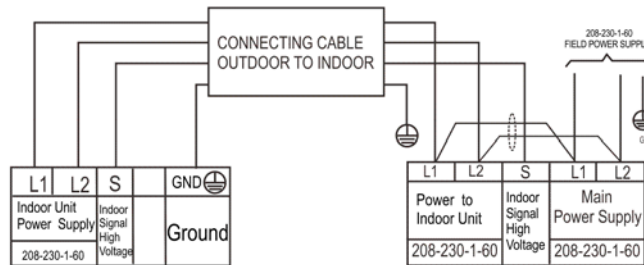
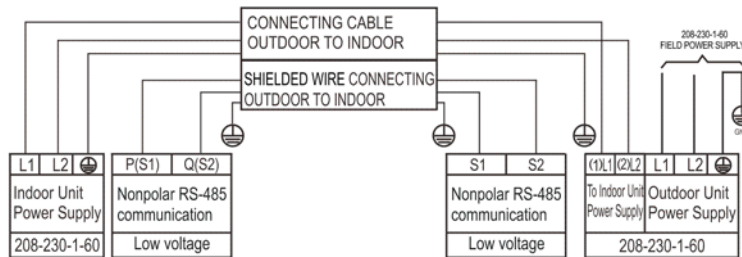

Fig. 29 – Connection Diagrams 09 to 24
Fig. 30 – Connection Diagrams 36 and 58
2. Connect wiring from outdoor unit per the connection diagram (see Fig. 29 and Fig. 30).